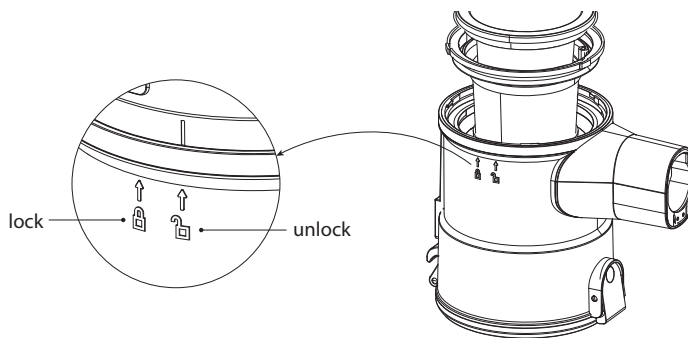

Fig. 2
2. Turn the dust container lid (10) slightly and lift it up. Pay attention to the markings on the container which indicate the release of the lock (fig.2).